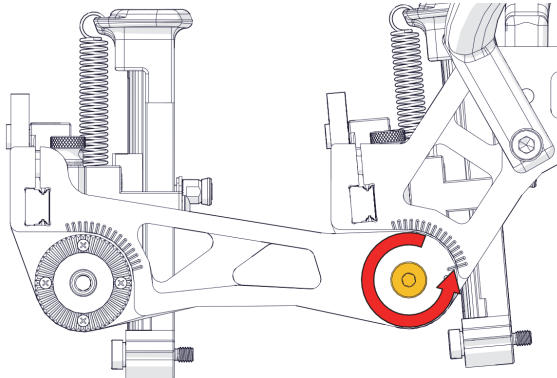

Figure 1-54 Loosen the arm screw
1. Loosen the arm screw using a 6mm Hex driver (see Figure 1-54 on page 63).